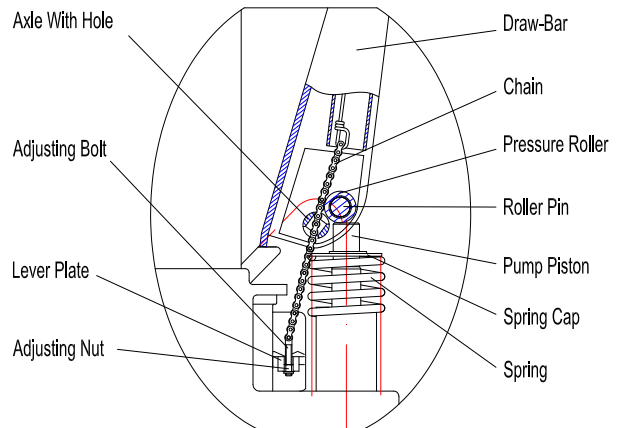

Fig. 7: Side view (symbolic)
b) Set the control lever of the handle to the 'LOWER' position, then pass the adjusting nut, adjusting bolt through the hole of the axle with your hand (Fig. 7).